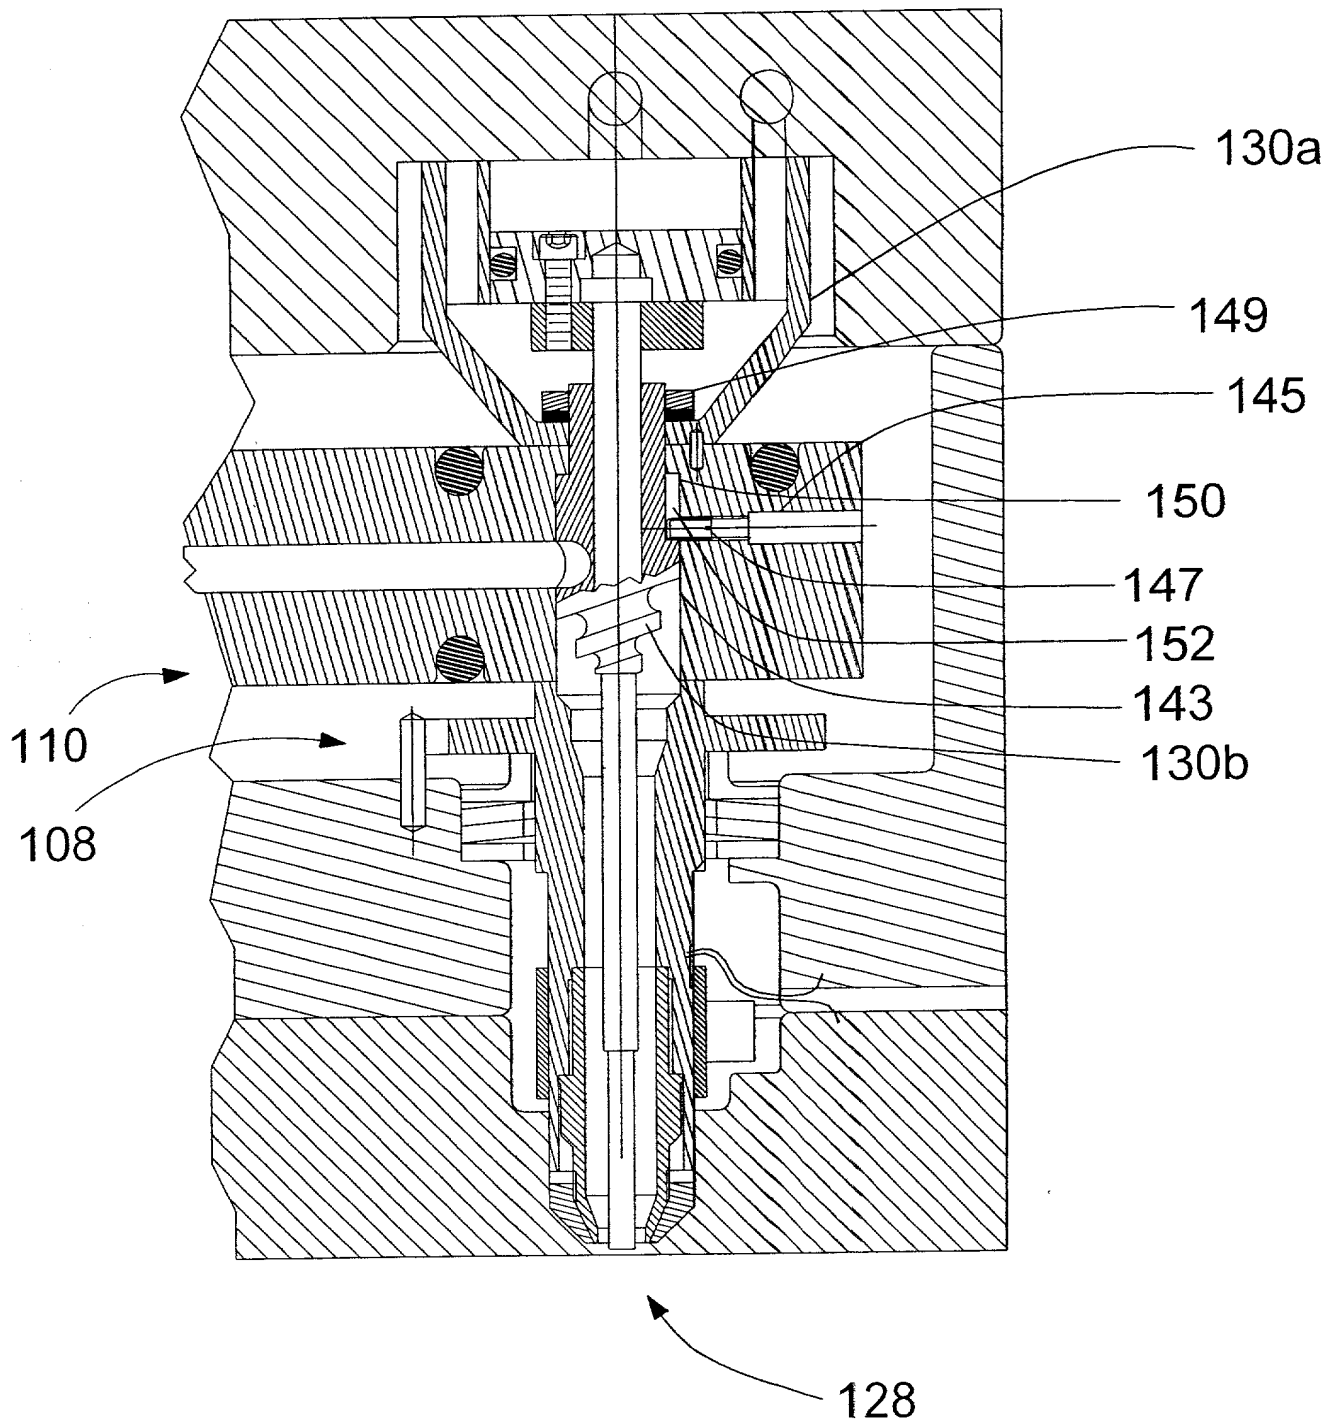

FIG. 3
FIG. 3 is a cross-sectional view of a mechanical assembly, showing a central shaft (128) passing through a housing (108). The shaft is supported by bearings (143, 147, 152) and is connected to a rotor (110) via a coupling (149). The rotor is mounted on a stator (130a, 130b) and is surrounded by a fluid chamber (145). The assembly is shown in a cross-sectional view, with the housing (108) and stator (130a, 130b) shown in hatched sections. The central shaft (128) is shown in a solid section. The bearings (143, 147, 152) are shown in cross-section. The coupling (149) is shown in cross-section. The rotor (110) is shown in cross-section. The fluid chamber (145) is shown in cross-section. The stator (130a, 130b) is shown in cross-section. The housing (108) is shown in cross-section. The assembly is shown in a cross-sectional view, with the housing (108) and stator (130a, 130b) shown in hatched sections. The central shaft (128) is shown in a solid section. The bearings (143, 147, 152) are shown in cross-section. The coupling (149) is shown in cross-section. The rotor (110) is shown in cross-section. The fluid chamber (145) is shown in cross-section. The stator (130a, 130b) is shown in cross-section. The housing (108) is shown in cross-section.